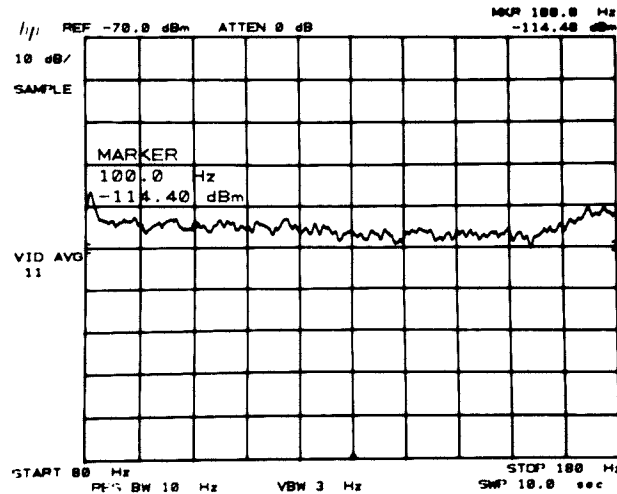

Figure 4-34. Average Noise Level Measurement
7. Press **MARKER** **NORMAL** . Tune to 100 Hz, or the nearest frequency that is not on the slope of the LO feedthrough or on a line related sideband (e.g., 120 Hz). Refer to Figure 4-34.